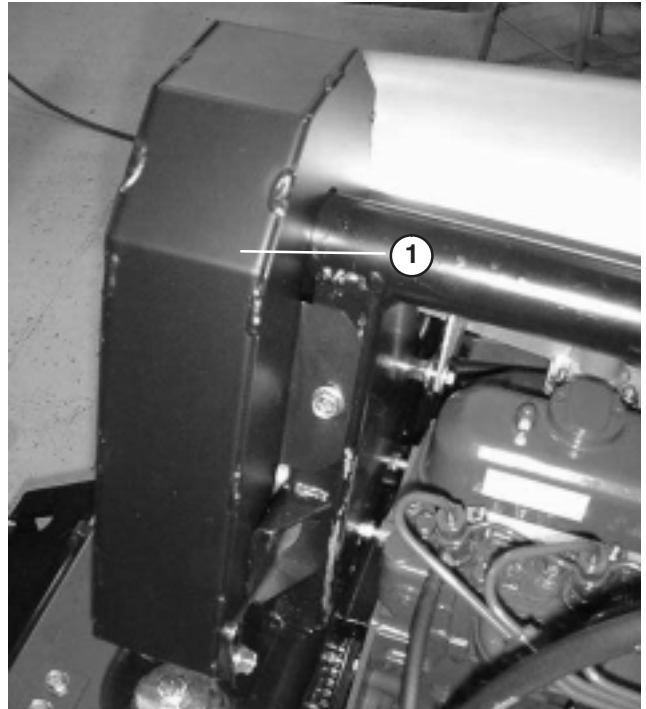

Figure 52
2. Remove capscrews (5) securing fan belt guard and remove guard (Fig. 52).
5. Install fan belt guard and secure with capscrews (Fig. 52). Close and latch hood.
4. Install fan belt guard and secure with capscrews (Fig. 52). Close and latch hood.